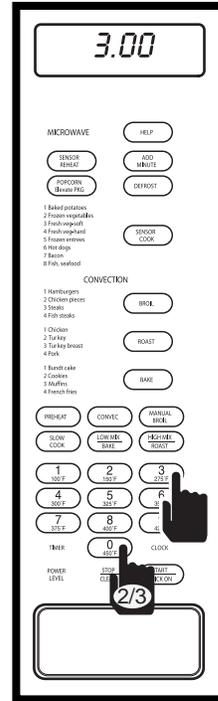

Figure 3-26.
2. Enter amount of time for the timer to countdown. For example: 3 minutes; press the number 3 key, and number 0 key twice, the display will flash “3.00” (See Figure 3-26).